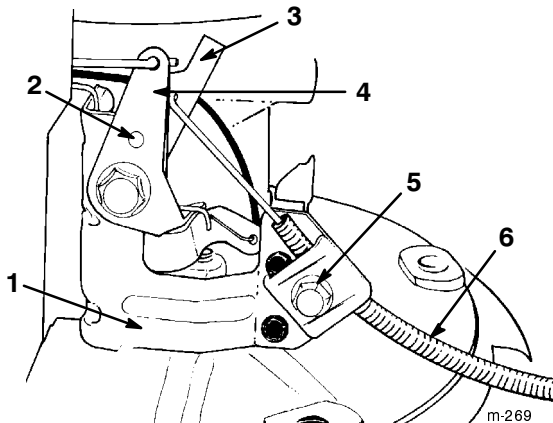

Figure 27
5. Loosen the cable clamp screw until the throttle cable slides (Fig. 27).
6. Ensure that the holes in the throttle bracket and the choke lever are aligned (Fig. 27). If not, follow the adjustment procedure in steps 7 through 10.
7. Insert a small-diameter pin into the aligned holes to hold the adjustment (Fig. 27).
8. Push the throttle cable until the throttle lever contacts the choke lever (Fig. 27).
9. Tighten cable clamp screw (Fig. 27).